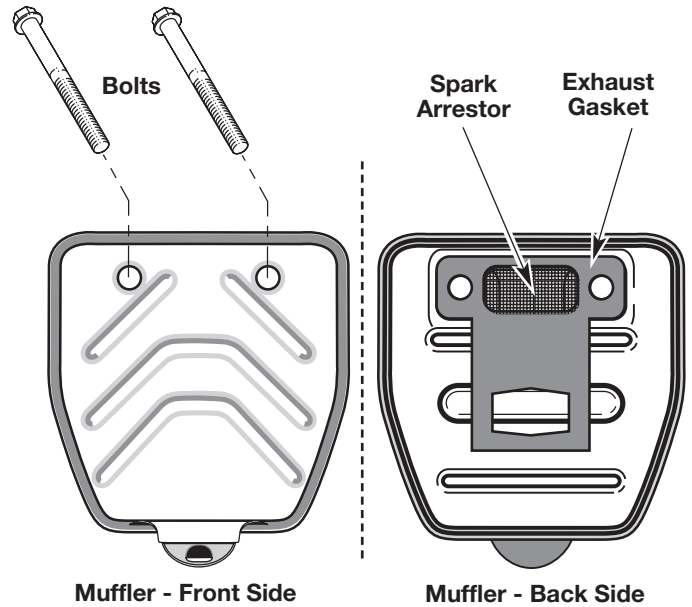

Fig. 26
2. Locate muffler front and the two (2) bolts securing it to the engine. (Fig. 26). Remove the two (2) bolts using a flatblade screwdriver or 5/16-inch socket or nut driver. Pull muffler off of the engine.
3. Turn muffler over to the back side and locate the exhaust gasket. Remove the muffler gasket from the muffler (Fig. 26).
7. Place exhaust gasket against muffler's back side. Align exhaust gasket bolt holes with bolt holes in muffler. While holding exhaust gasket in place, insert bolts into muffler's front side. (Fig. 26).